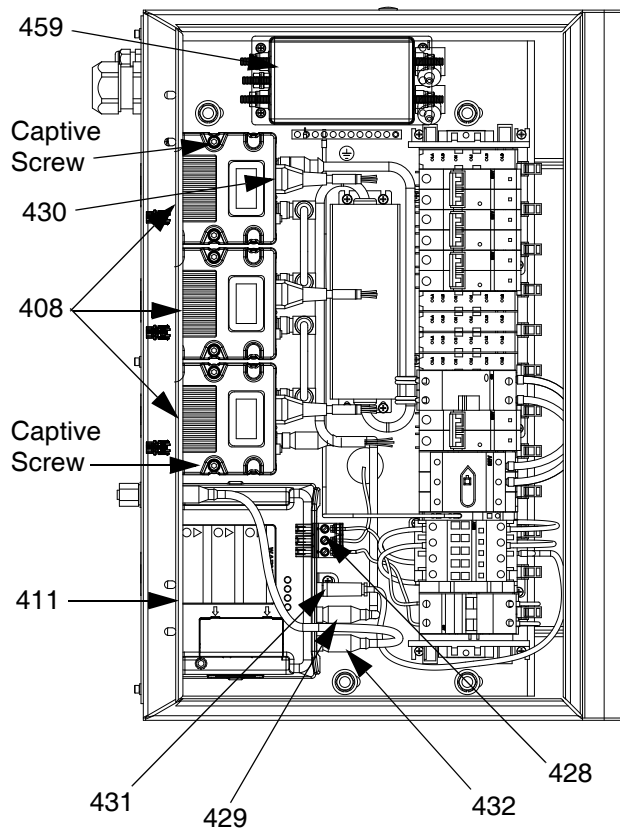
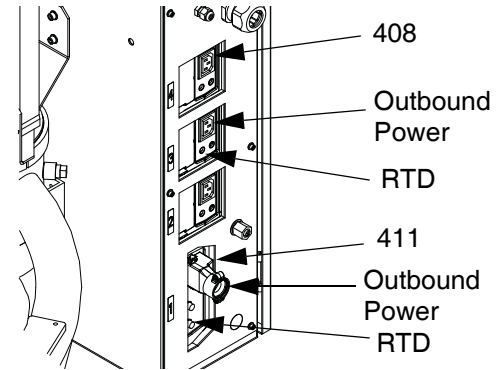

FIG. 48: Internal View of Electrical Enclosure
FIG. 49: Back View of Electrical Enclosure
- Open enclosure door (402). Disconnect the following cables from low power TCM (408):
- incoming power supply cable (430)
- outbound power supply cable (see FIG. 49)
- Loosen both captive screws (409) holding low power TCM (408) to base (407); remove low power TCM. See FIG. 48.
1. Open enclosure door (402). Disconnect outbound power supply and RTD cables from high power TCM (411). See FIG. 49.
2. Remove electrical enclosure side panel (436). See **Electrical Enclosure Parts** on page 90.
3. Disconnect all four incoming cables (432, 428, 429, 431) from high power TCM. See FIG. 48.
4. Remove both screws (415) that secure brackets (412, 413) of high power TCM to electrical enclosure. Remove high power TCM. See **Electrical Enclosure Parts** on page 90.